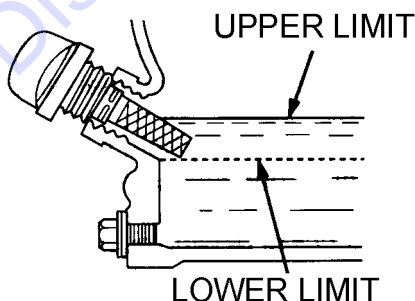

Figure 30. Engine Oil Dipstick (Oil Level)
4. If the oil level is low (Figure 30), fill to the edge of the oil filler hole with the recommended oil type as listed in Table 4. Reference Table 3 for maximum engine oil capacity.